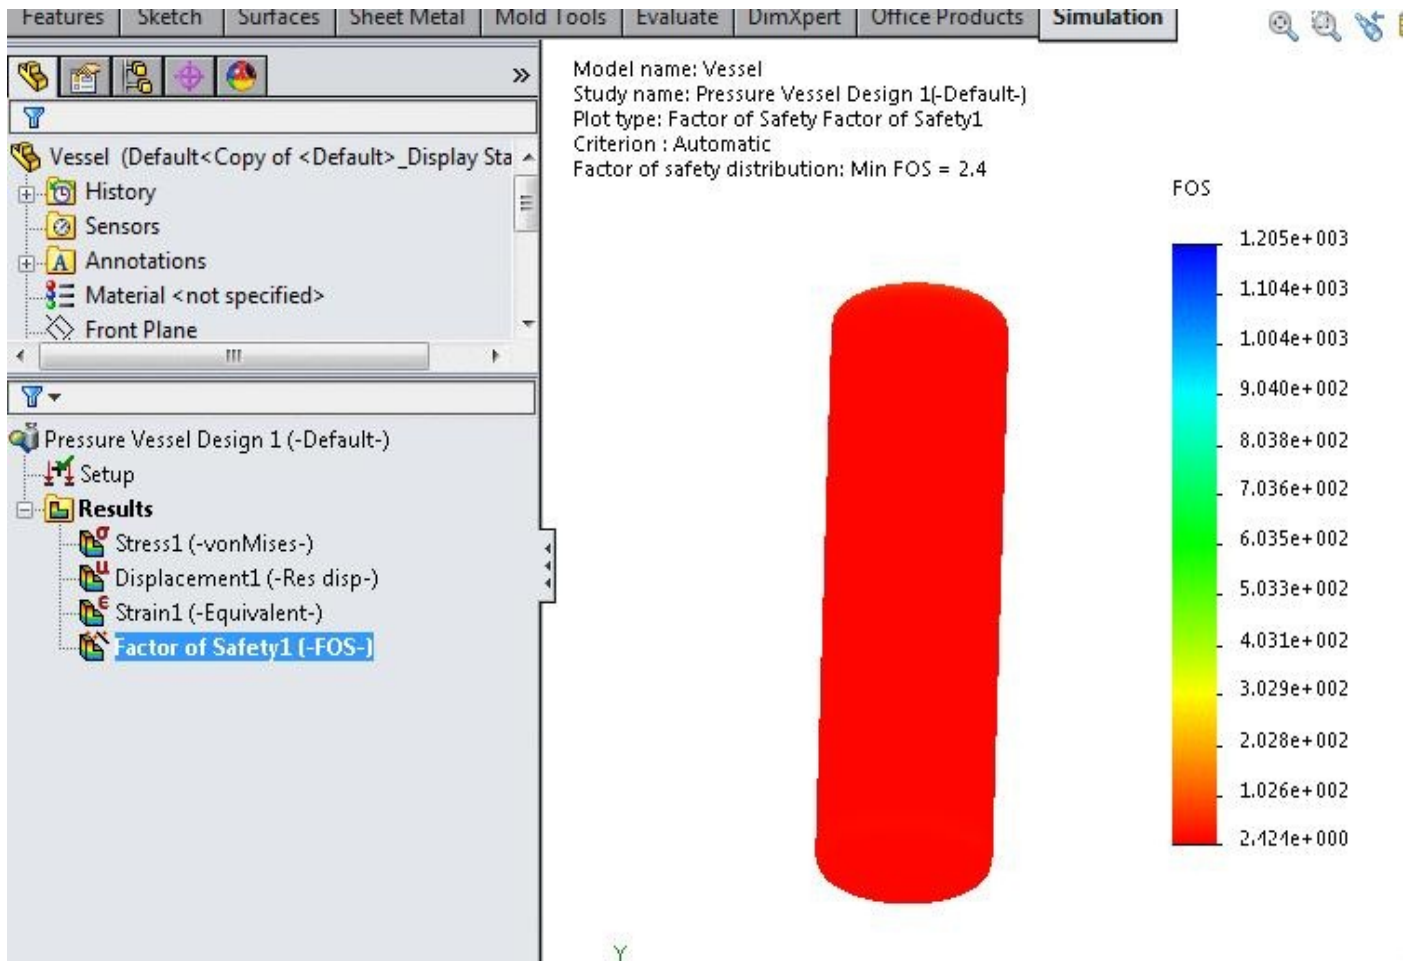

Figure-10. Factor of safety plot
- Click on the **OK** button from the **PropertyManager**. The factor of safety plot will be created in the modeling area; refer to Figure-10.